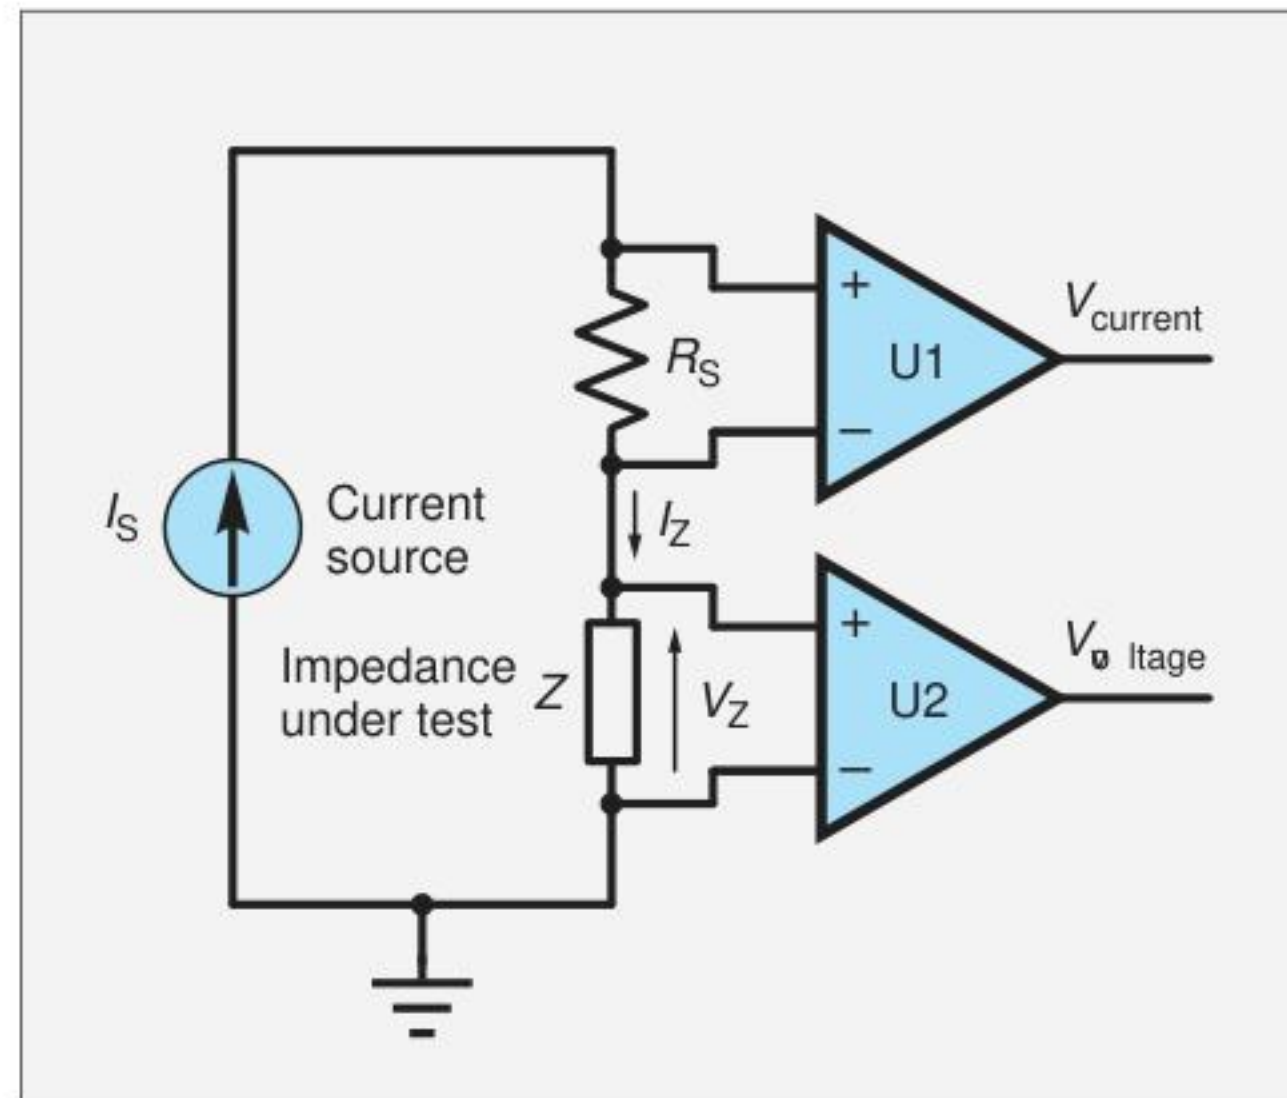
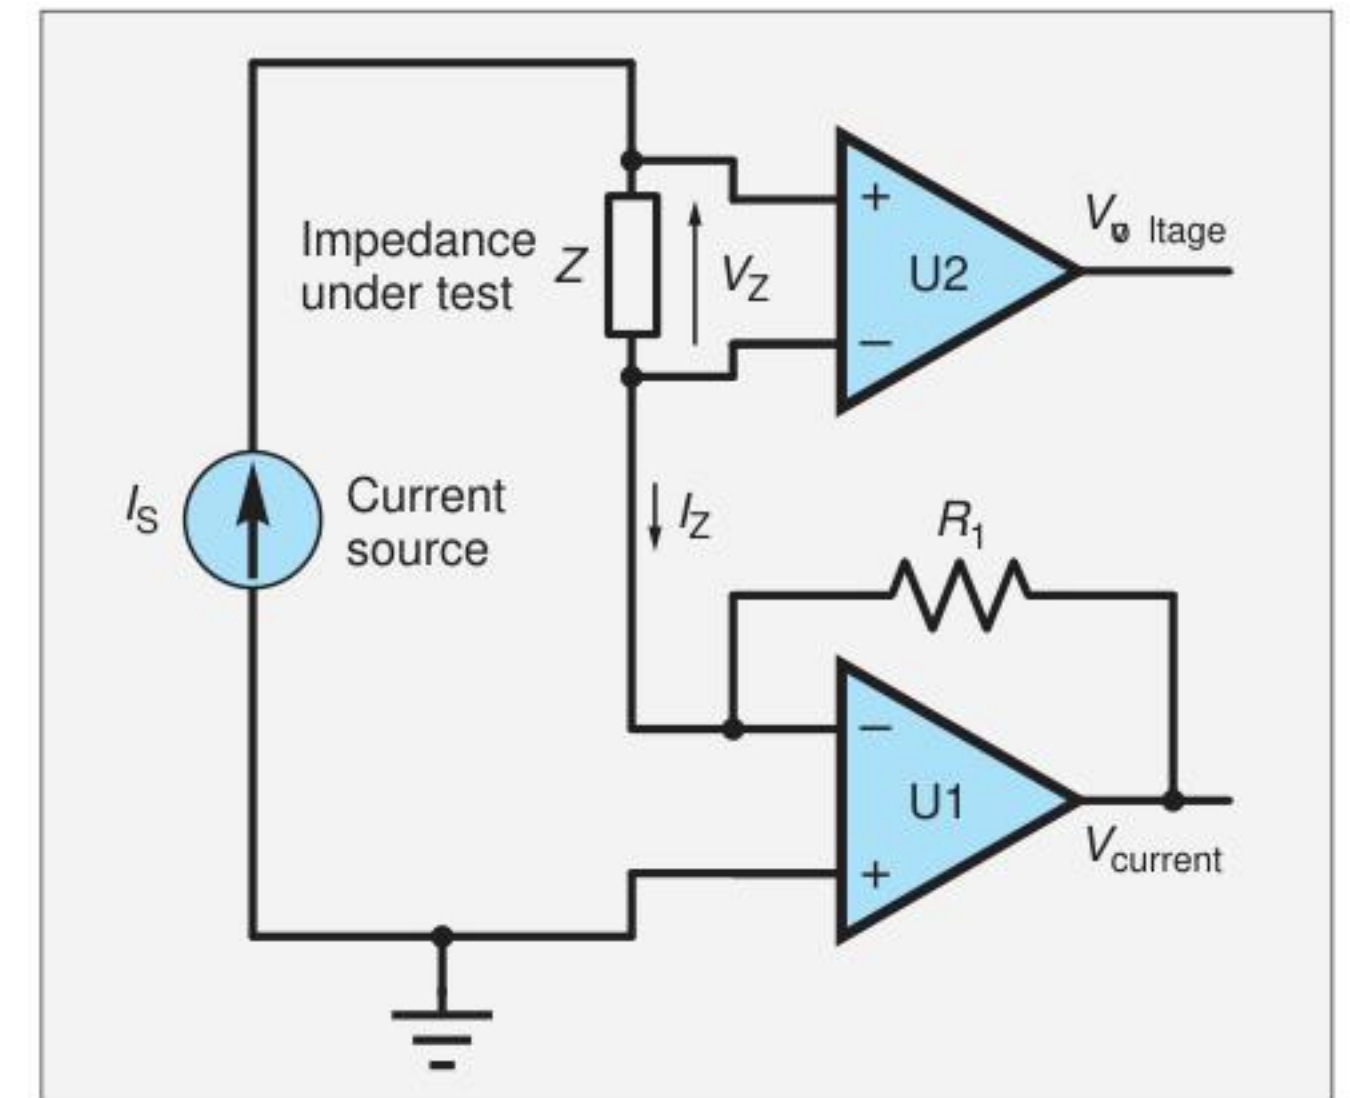

Fig.7. Current measurement circuit using a sense resistor. Voltage measurement also shown.
Fig.8. Measurement circuit using a transimpedance amplifier; voltage measurement also shown.
There are two basic approaches to measuring the current applied to an impedance under test – these are shown in Fig.7 and Fig.8. In both cases we show a current source driving the impedance under test (Z) but it could be driven from a voltage source. Also, in both cases we show a differential amplifier being used to measure the voltage across Z – we need this signal along with the current in order to measure impedance.
The first current measurement approach is shown in Fig.7 – it uses a sense resistor and measures the voltage across it using a differential amplifier. The current supplied to Z also flows through the sense resistor
The differential amplifiers used in the circuit in Fig.7 must have very high input impedance and very low bias currents. Any current flowing into the differential amplifiers will cause discrepancies between the measured current and that flowing into the impedance under test. These amplifiers must also have very good common-mode rejection ratios (CMRR) so that their outputs are only dependent on differential inputs; again, if this is not the case measurement errors will occur. The same applies to the differential amplifier in Fig.8.
The second current measurement approach is shown in Fig.8 – it uses a transimpedance amplifier implemented using op amp U1 and resistor R_1 . The voltage across Z is measured using U2 in the same way as for the circuit in Fig.7.
Looking at Fig.8, we see that the impedance under test is not connected to ground. However, using the same argument as for the two inputs of the op amp in the Howland current source being at the same voltage, we note that the inverting input of the op amp must be a voltage very close to 0V under normal operation. With an ideal op amp, the inverting input would be exactly at 0V. This behaviour of an op amp amplifier with the inverting input grounded is referred to as a 'virtual' earth (or 'virtual' ground).